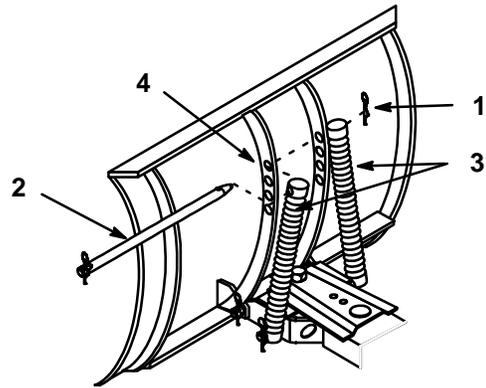

Figure 21
The blade trip springs can be mounted in 4 positions. The top hole provides greatest scraping pressure and the lower hole least scraping pressure (Fig. 21).
1. Remove hairpin cotter and slide rod out from blade and springs (Fig. 21).
2. Slide rod through springs and new hole position in blade (Fig. 21).